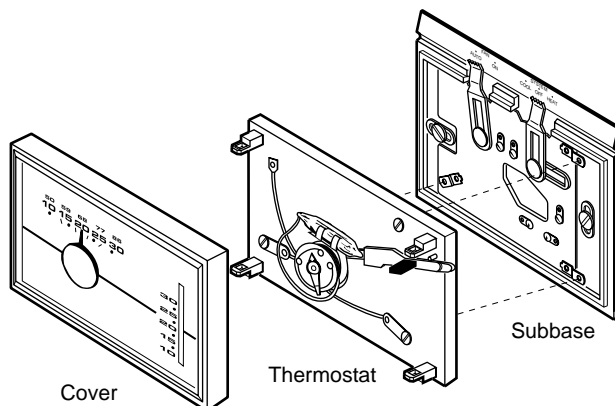

Figure 9. Attach Thermostat to Subbase
3. Attach thermostat base to subbase, being sure that all captive screws are tightened snugly, since they serve as electrical connections between thermostat and subbase (see fig. 9).